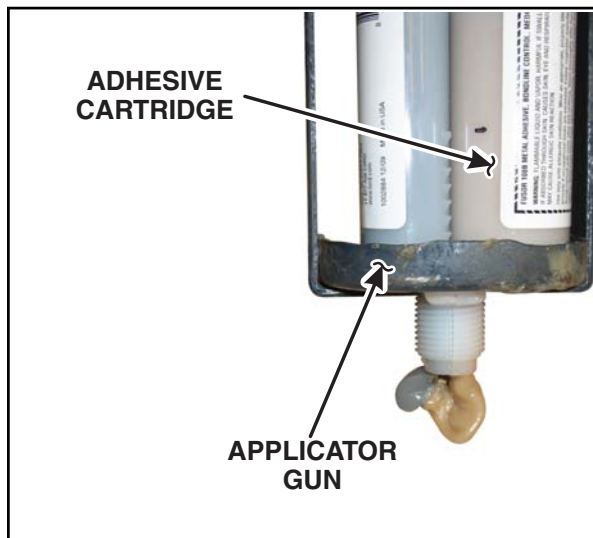

FIGURE 12A
3. Squeeze out a small amount of adhesive to ensure both sides of the adhesive cartridge are flowing equally. See Figure 12A.